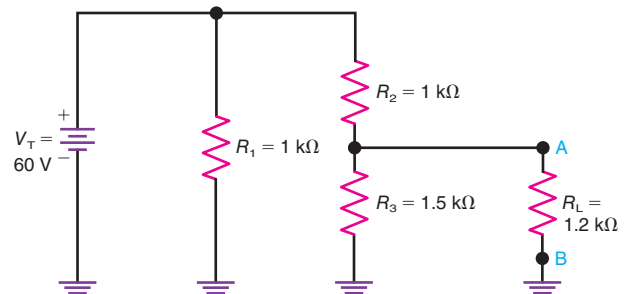

Figure 8-21
8.13 In Fig. 8-21, use the Thevenin equivalent circuit to solve for I_L and R_L .